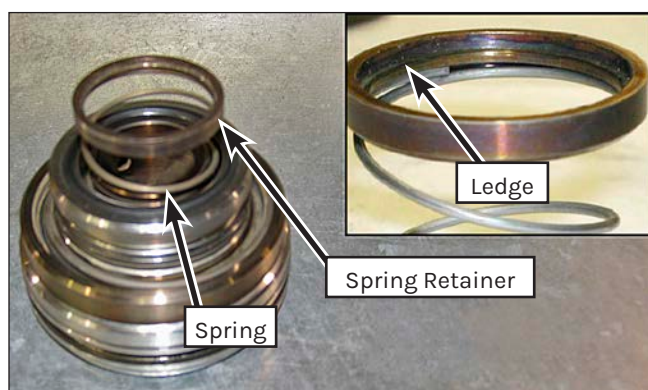

Figure 118: Spring and Retainer Installation.
4. Insert the suction valve spring and spring retainer into the valve body. Ensure the ledge the retaining ring sits on is positioned properly (Figure 118).